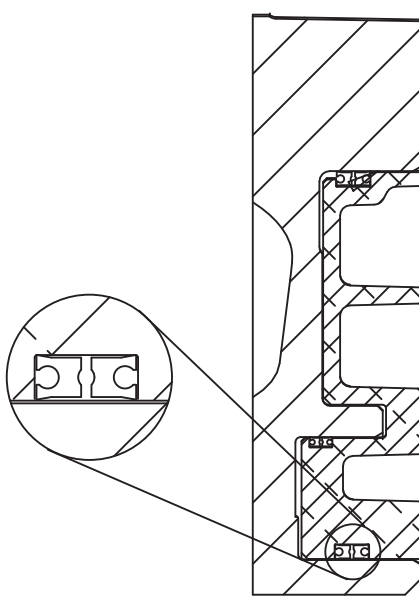

Figure 20
- 4.9.2 Lubricate the seals (21)(23)(114) with Dow Corning 55M O-ring lubricant, and install them into the seal grooves on the piston (33). Note the orientation of the seal lips, per Figure 20. Lubricate the seal surfaces in the mounting flange / cylinder (112) and evenly insert the piston into the mounting flange/cylinder.